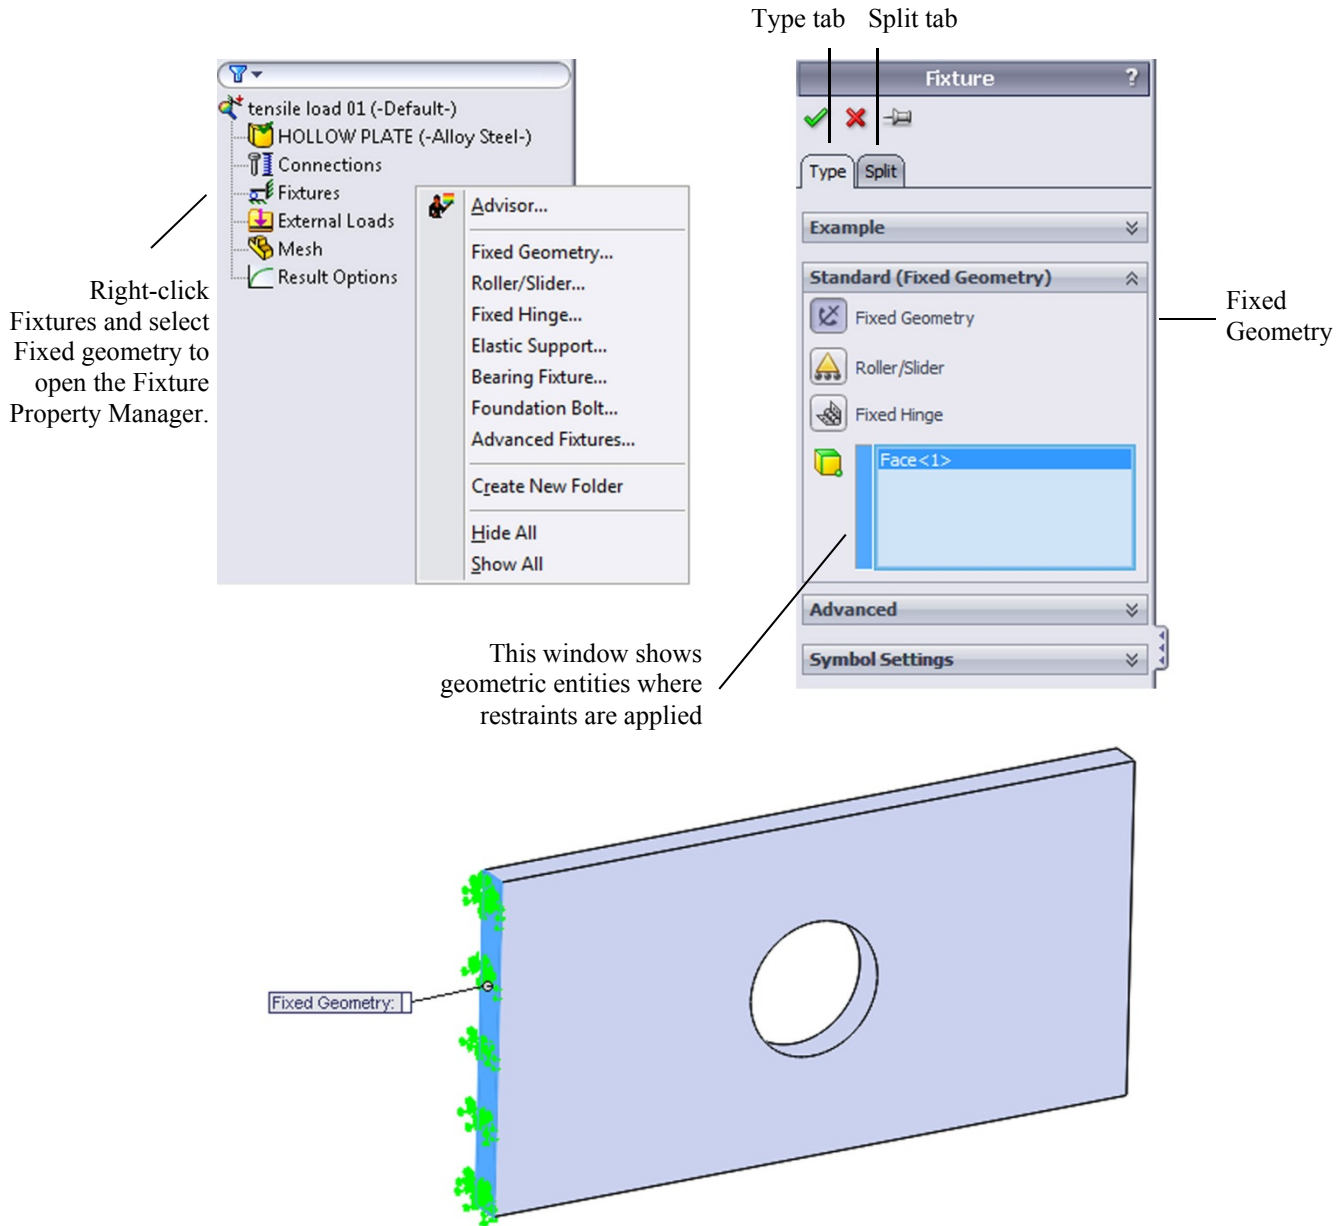

Figure 2-10: Pop-up menu for the Fixtures folder and Fixture definition window (Fixture Property Manager).
Having assigned the material, we now move to defining the restraints. To display the pop-up menu that lists the options available for defining restraints, right-click the *Fixtures* folder in the *tensile load 01* study (Figure 2-10).
The existence of restraints is indicated by symbols shown in Figure 2-10. In the **Symbol** Settings of the Fixture window the size of the symbol can be changed. Notice that symbols shown in Figure 2-10 are distributed over the highlighted face meaning the entire face has been restrained. Each symbol consists of three orthogonal arrows symbolizing directions where translations have been restrained. Each arrow has a disk symbolizing that rotations have also been restrained. The symbol implies that all six degrees of freedom (three translations and three rotations) have been restrained. However, the element type we will use to mesh this model (second order solid tetrahedral element) has only translational degrees of freedom. Rotational degrees of freedom can't be restrained because they don't exist in this type of element. Therefore, disks symbolizing restrained rotations are irrelevant in our model. Please see the following table for more explanations.
- ❑ Right-clicking the *Fixtures* folder and selecting **Hide All** or **Show All** in the pop-up menu shown in Figure 2-10, or